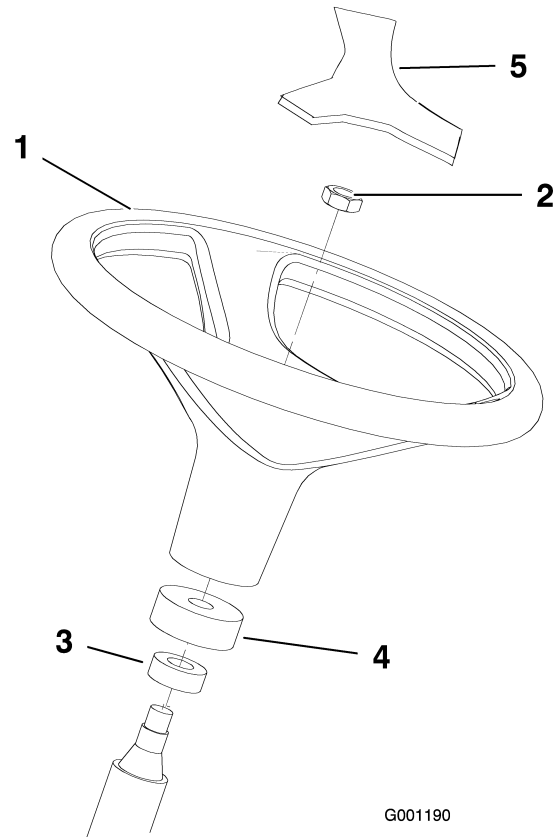

Figure 3
2. Remove the cover from the steering wheel (Figure 3).
3. Remove the jam nut from the steering shaft. Ensure that the foam collar and dust cover are on the steering shaft (Figure 3).
4. Slide the steering wheel onto the steering shaft (Figure 3).
6. Mount the cover to the steering wheel (Figure 3).